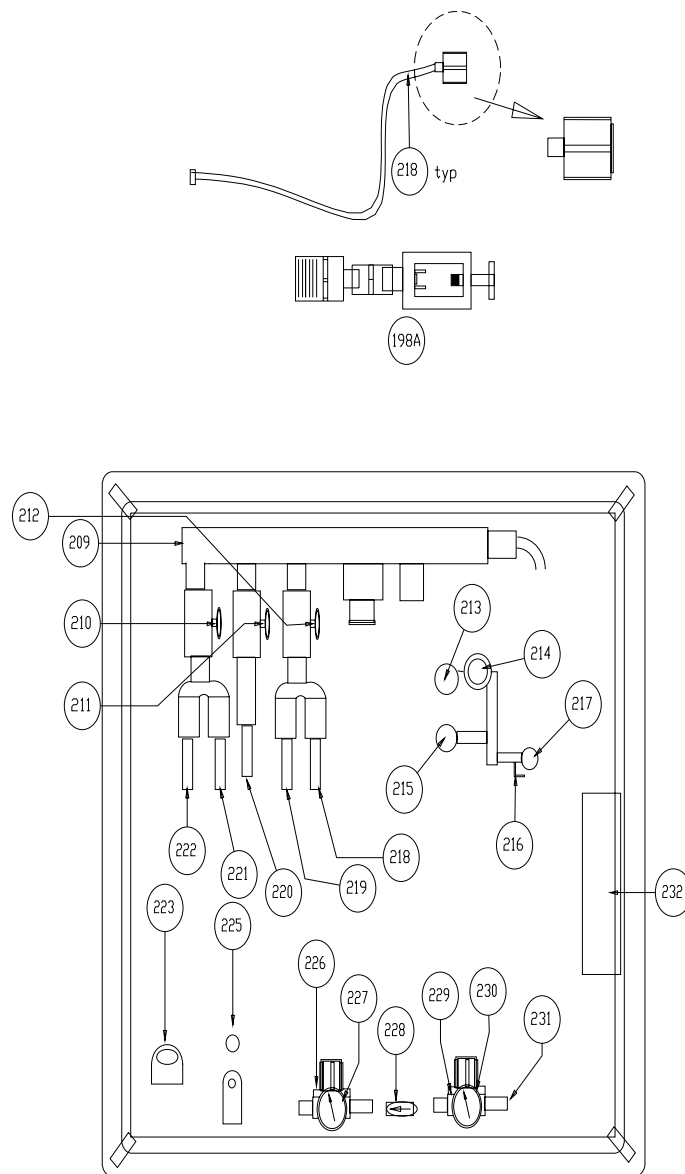

Figure 11
7.2.23 HV Booster Interior – Manifold Side (Fig. 11)
(Fig. 11)